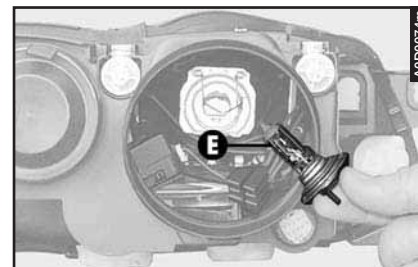

fig. 41
– Remove the bulb (**E- fig. 41**).